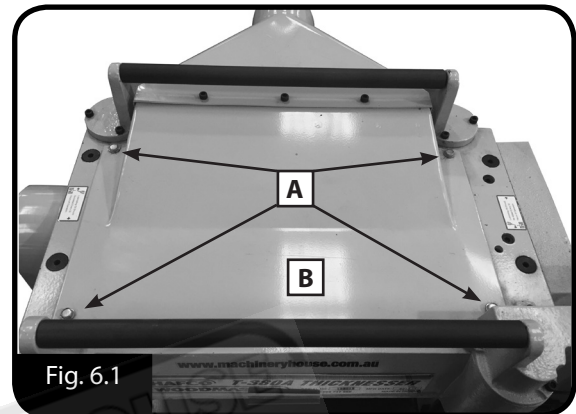

Fig. 6.1
2. Remove headstock cover to expose the cutter head. Remove the six screws (A), and remove the upper cover (B) as shown in Fig. 6.1.